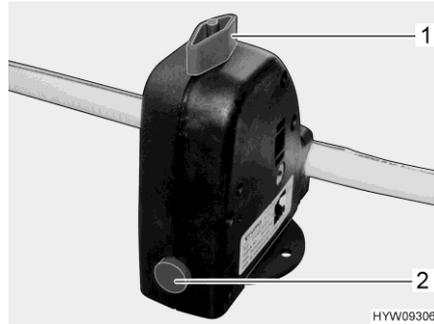

Fig. 112 Safety/drainage valve (boiler)
The boiler is equipped with a safety/drainage valve (Fig. 112). The safety/drainage valve prevents water in the boiler from freezing, when there is frost and the heater is not switched on.
- Close the safety/drainage valve. Turn the knob (Fig. 112,1) perpendicular to the safety/drainage valve and push the push button (Fig. 112,2) in.
- Open the safety/drainage valve. To do this turn the knob (Fig. 112,1) parallel to the safety/drainage valve. The push button (Fig. 112,2) jumps out. The boiler is drained to the outside by the safety/drainage valve.